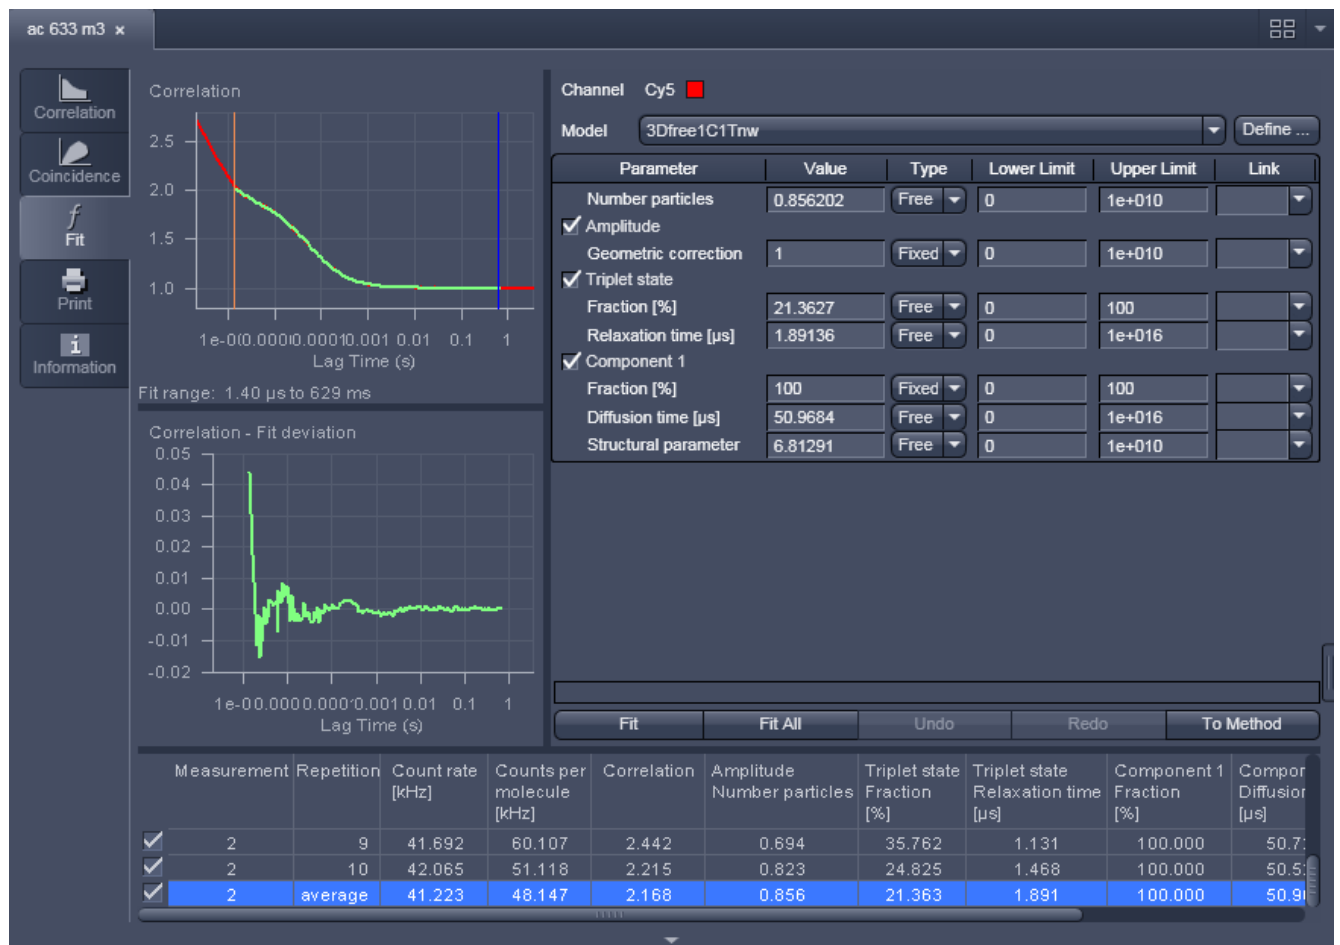

Fig. 354 Fit diagram panel for correlation analysis
- Click on the **Fit** tab to activate the **Fit** display mode (Fig. 354).
For fitting to a correlation model the upper graph (Fig. 354) shows the **Correlation $G(\tau)$ Fit diagram** (correlation plotted versus the correlation time) with the overlaid fit graph. It also displays the fit range defined by the red (start value) and the blue (end value) bars. The lower **Fit deviation** curve depicts the fit residuals. If an experiment is loaded for which no fit has been conducted yet, only the measured **Correlation $G(\tau)$** curve is shown and no overlaid fit curve. **The Fit deviation** diagram will be empty.